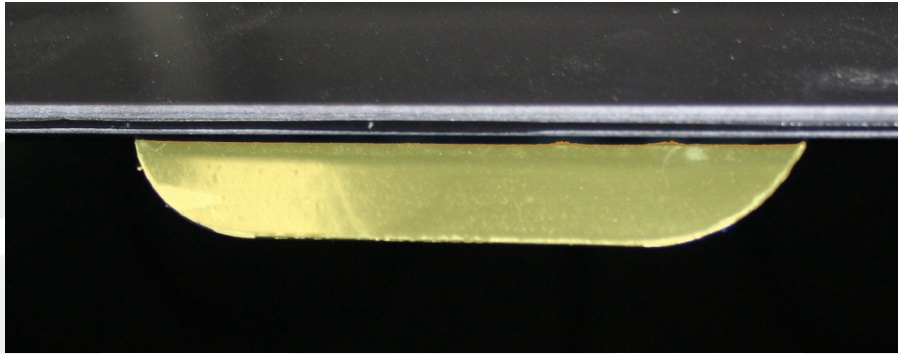

Figure 3
6. Trim all excess tape that protrudes over the edges of the latching tab, but ensure that the entire area of the latching tab is covered (Figure 3).